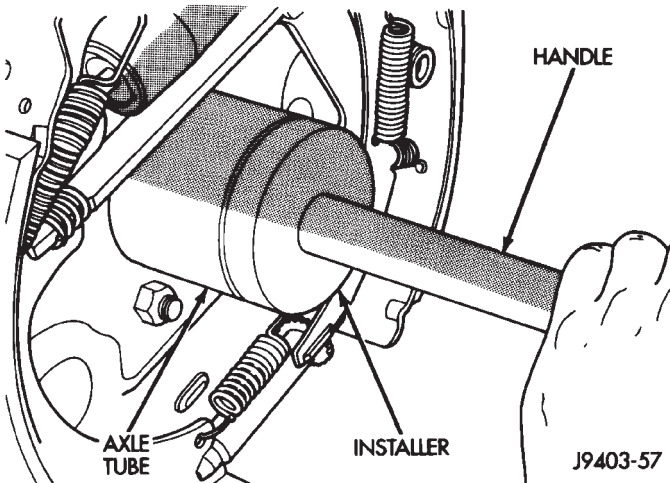

Fig. 13 Axle Shaft Seal and Bearing Installation
(2) Install the axle shaft bearing with Installer C-4198 and Handle C-4171 (Fig. 13). Ensure that the bearing part number is against the installer. Verify that the bearing is installed straight and the tool fully contacts the axle tube when seating the bearing.
(3) Install a new axle seal with Installer C-4076-B and Handle C-4735-1. When the tool contacts the axle tube, the seal is installed to the correct depth.
(4) Coat the lip of the seal with axle lubricant for protection prior to installing the axle shaft.
(5) Install the axle shaft.